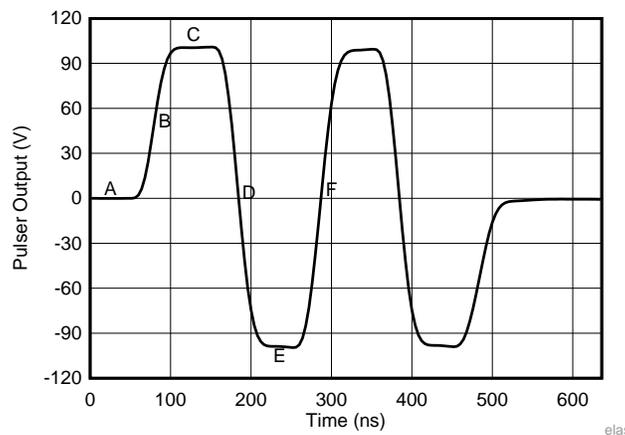

Figure 96. Repeatability Data
- a. To measure the repeatability, pulser output data is sampled at PRF rate on the data points shown in the Figure 96.